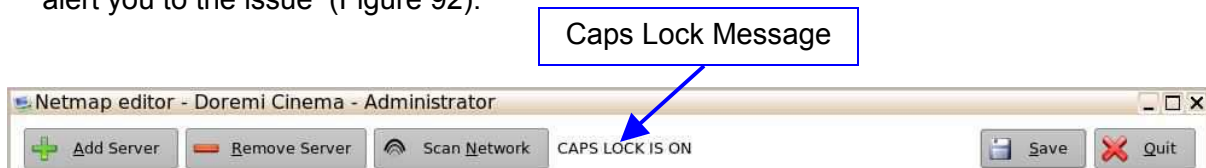

Figure 92: Caps Lock Symbol
- If the keyboard is in Caps Lock mode, a message will flash across the top of the window to alert you to the issue (Figure 92):